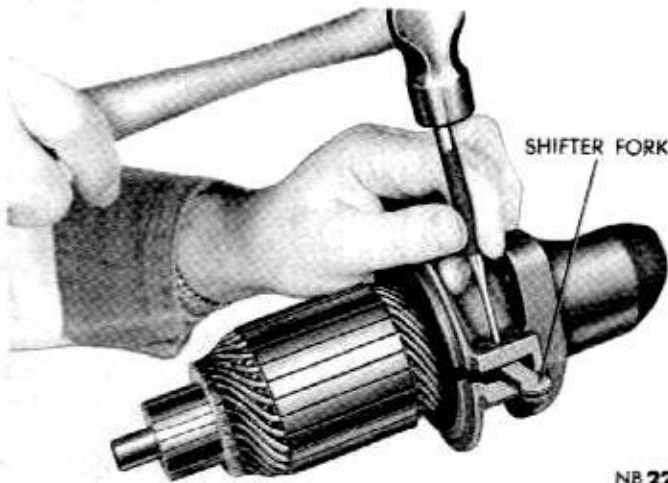
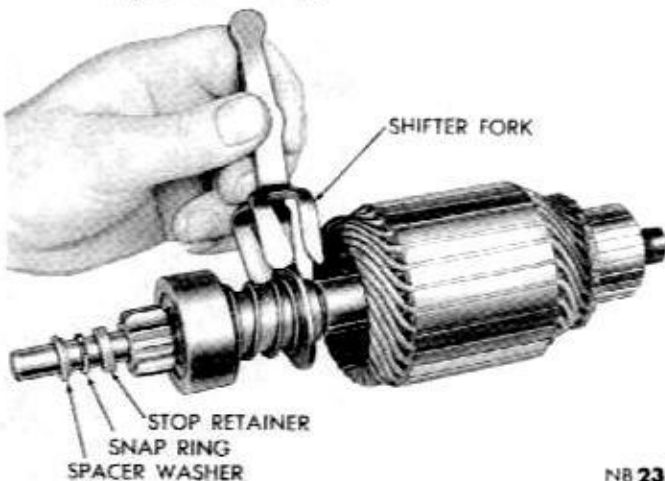
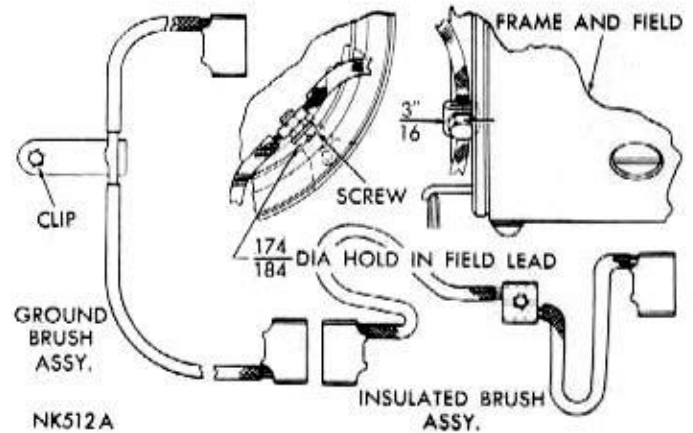

Fig. 5—Removing Shifter Fork Pivot Pin
Fig. 6—Removing or Installing Shift Fork
Fig. 7—Brush Replacement
- (7) Drive out overrunning clutch shift fork pivot pin (Fig. 5).
- (9) Note position of shifter fork on starter drive and remove shifter fork (Fig. 6).
- (10) Slide overrunning clutch pinion gear toward commutator end of armature, drive stop retainer toward clutch pinion gear to expose snap ring and remove snap ring.
- (11) Slide overrunning clutch drive from armature shaft.
- (12) If it is necessary to replace field coils, remove the ground brushes terminal attaching screw and raise the brushes with terminal and shunt wire up and away from field frame (Fig. 7). Remove pole shoe screws with special pole shoe impact screwdriver, Tool C-3475.
(5) Remove shunt field from old brush set to ensure as much length as possible.
(6) Remove field terminal plastic covering and remove old brushes. Use side cutters to break the weld by rolling the stranded wire off the terminal.
(7) Drill a .174 to .184 inch hole in the series coil terminal 3/16 of an inch from top of terminal to centerline of hole (Fig. 7). (Use a number 16 drill.)
- (1) Lubricate armature shaft and splines with SAE 10-W oil or SAE 30 rust preventative oil.
- (2) Install starter drive, stop collar (retainer), lock ring and spacer washer.
- (3) Install shifter fork over starter drive spring retainer washer with narrow leg of fork toward the commutator (Fig. 6). This is important, if the fork is not properly positioned starter gear travel will be restricted causing a lockup in the clutch mechanism.
- (4) Install drive end (pinion) housing on armature shaft, indexing shifting fork with slot in drive end housing.
- (5) Install shifter fork pivot pin (Fig. 5).
- (6) With clutch drive, shifter fork, and pinion housing assembled to the armature, slide armature into field frame until pinion housing indexes with slot in field frame.